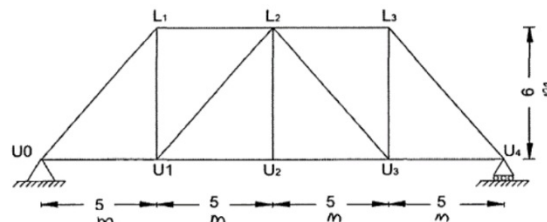

Figure: 4
5. Construct the influence line for the force in member L_2U_3 of the bridge truss shown in figure 4. [15]